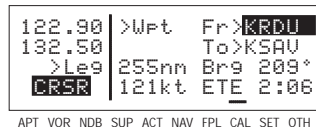

Figure 4-34
2. If required, rotate the right outer knob to position the cursor (figure 4-34).